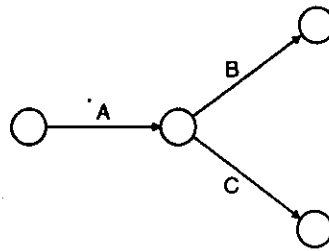

Fig. 8.8
Step 2. Activities B and C are preceded by an activity 'A' and activities B and C could be done concurrently (if resources are not binding). No other activity can be scheduled at this stage. This is shown in Fig. 8.8.